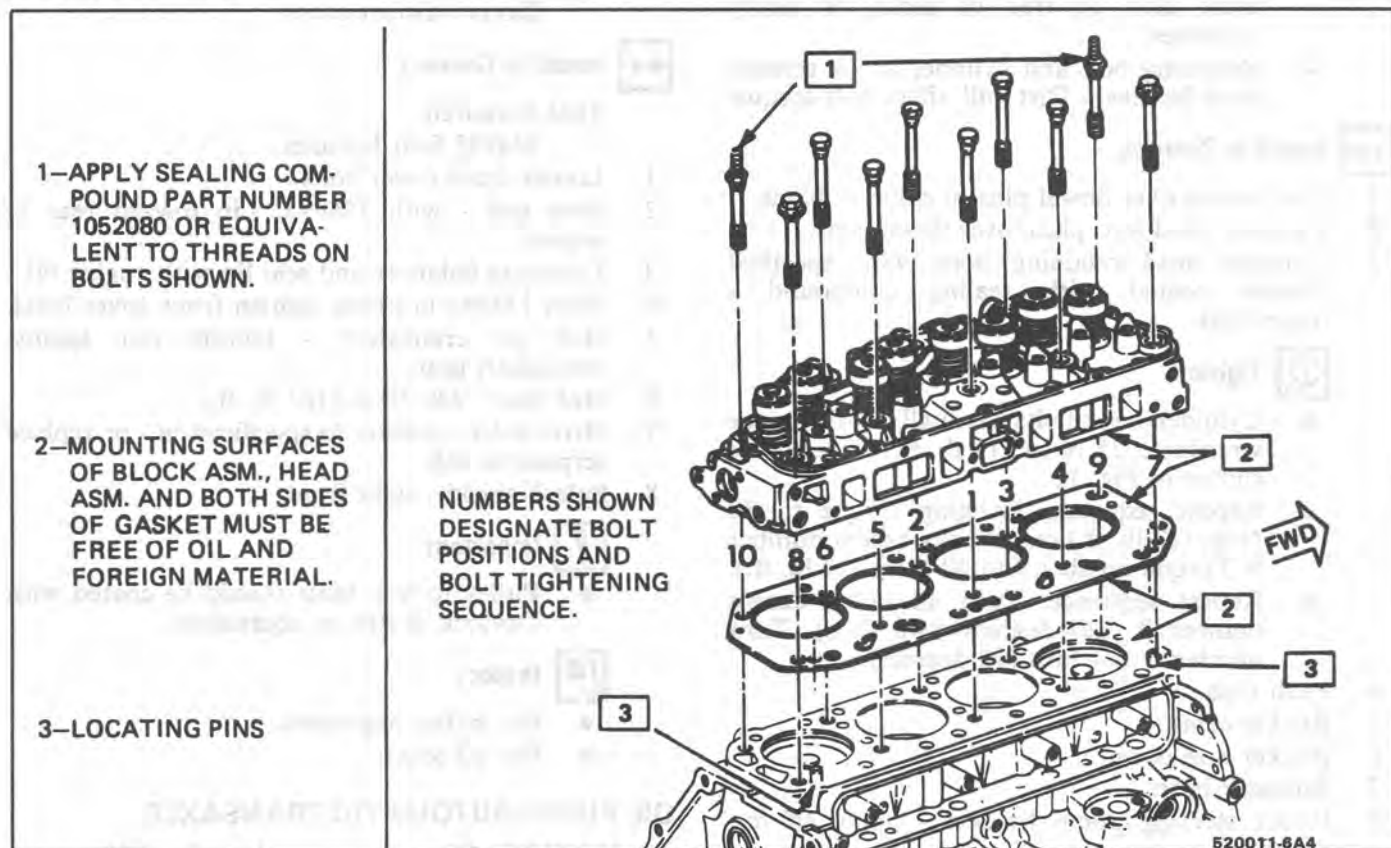

Fig. 12 Cylinder Head Tightening Sequence (Typical)
- Cylinder head bolts gradually with torque wrench to 25 N·m (18 lb. ft.) in sequence shown in Fig. 12.